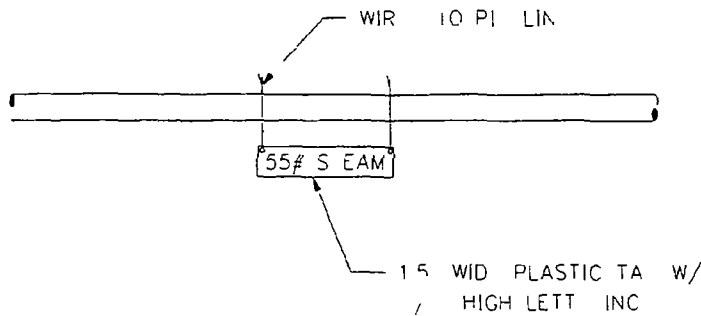

Fig 3.2
- 3.7 Plastic tag pipe line markers shall be affixed to the pipe by hanging it by stainless steel wire from horizontal runs of the piping. The total installation shall look like fig 3.2